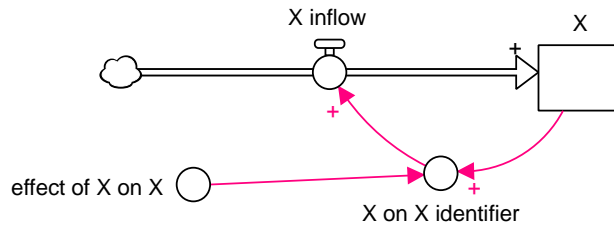

Figure 11: Loop identifier added to first-order reinforcing loop model of Figure 9
- Add the converter *X on X identifier* in the link from *X* to the flow of *X*, and move the converter *effect of X on X* to be attached to the *X on X identifier*. See Figure 11: